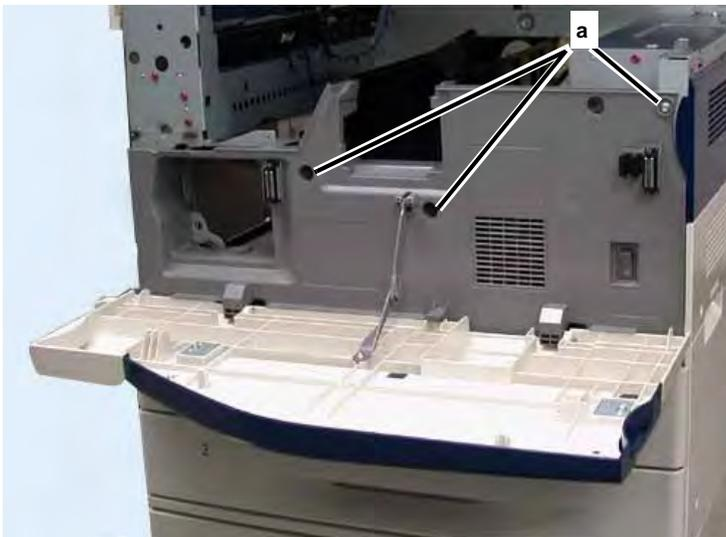

Figure 5 Removing Screws
6. Remove the Front Cover (Figure 5).
- a. Remove the Screws (3).